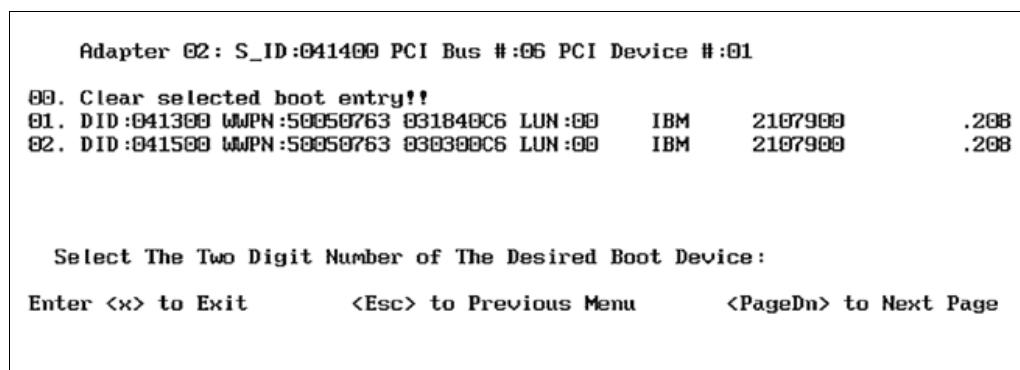

Figure 18-16 Boot device entry field panel
- At initialization, Emulex scans for all possible targets or boot devices. If the HBA is attached to a storage array, the storage device is visible. To view the LUNs, select the storage array controller. Figure 18-16 shows two arrays within the entry field. Select **01** and press Enter.